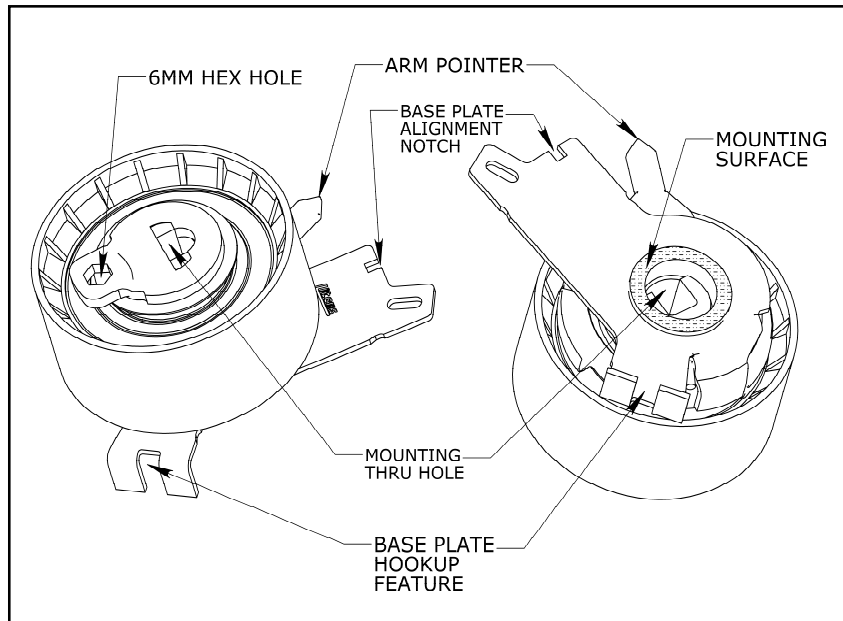
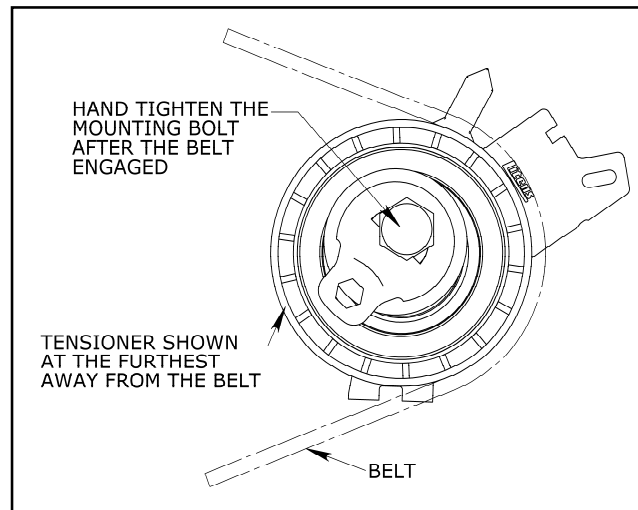

Figure 2. Tensioner shown as shipped
Figure 4. Tensioner's initial setup
6. Install the new tensioner on the engine (Fig. 2) and ensure it is seated on the mounting surface and that its base plate hookup feature is engaged with the rib on the engine block properly. Hand tighten the tensioner mounting bolt (Fig. 4).
9. Ensure the belt is tight between the sprockets on the water pump side. Rotate the tensioner away from the belt and engage the belt on the tensioner (Fig. 4). Remove the timing belt retaining clip.